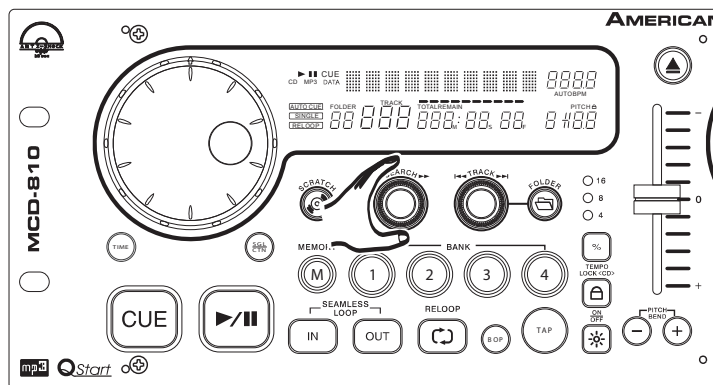

Figure 27
12. CHANGING THE TIME DISPLAY (53, 54, & 55)\TIME BAR (51):
DURING NORMAL PLAYBACK, pressing the *TIME BUTTON* (14), will change the time display information (53, 54, 55, & 51) in the *LCD* (2) see figure 27. The following is a break down of the time settings and their definitions:
- 2) **REMAIN** (52) - This describes the time in the *LCD* (53, 54, & 55) as the current *TRACKS* remaining running time.
- 3) **TOTAL REMAIN** (56) - This describes the time in the *LCD* (53, 54, & 55) as the disc total remaining running time.